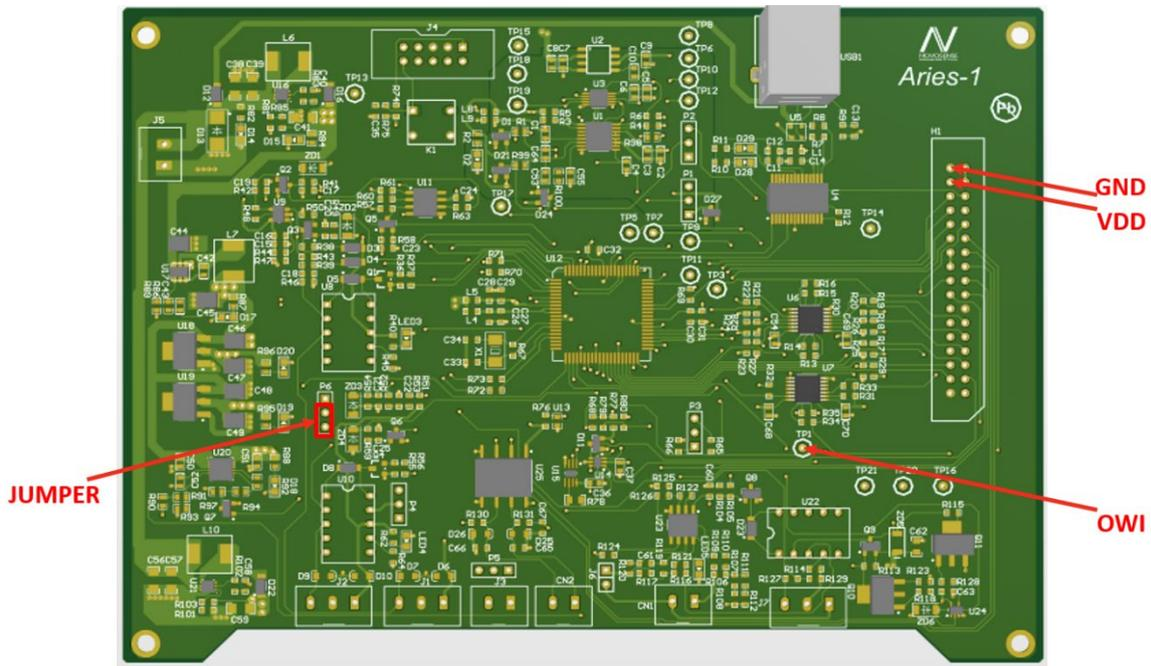

Figure 1.1 Programming KIT
Figure 1.1 shows the NSM1030 programming KIT, please follow the steps to set up:
1) Using Jumper to connect Sensor Voltage with VCC_Sensor. Please refer to the location Jumper in Figure 1.1.
2) Connecting Out pin of NSM1030 with the test point TP1 of programming kit for OWI communication. Please refer to the location of TP1 in Figure 1.1.